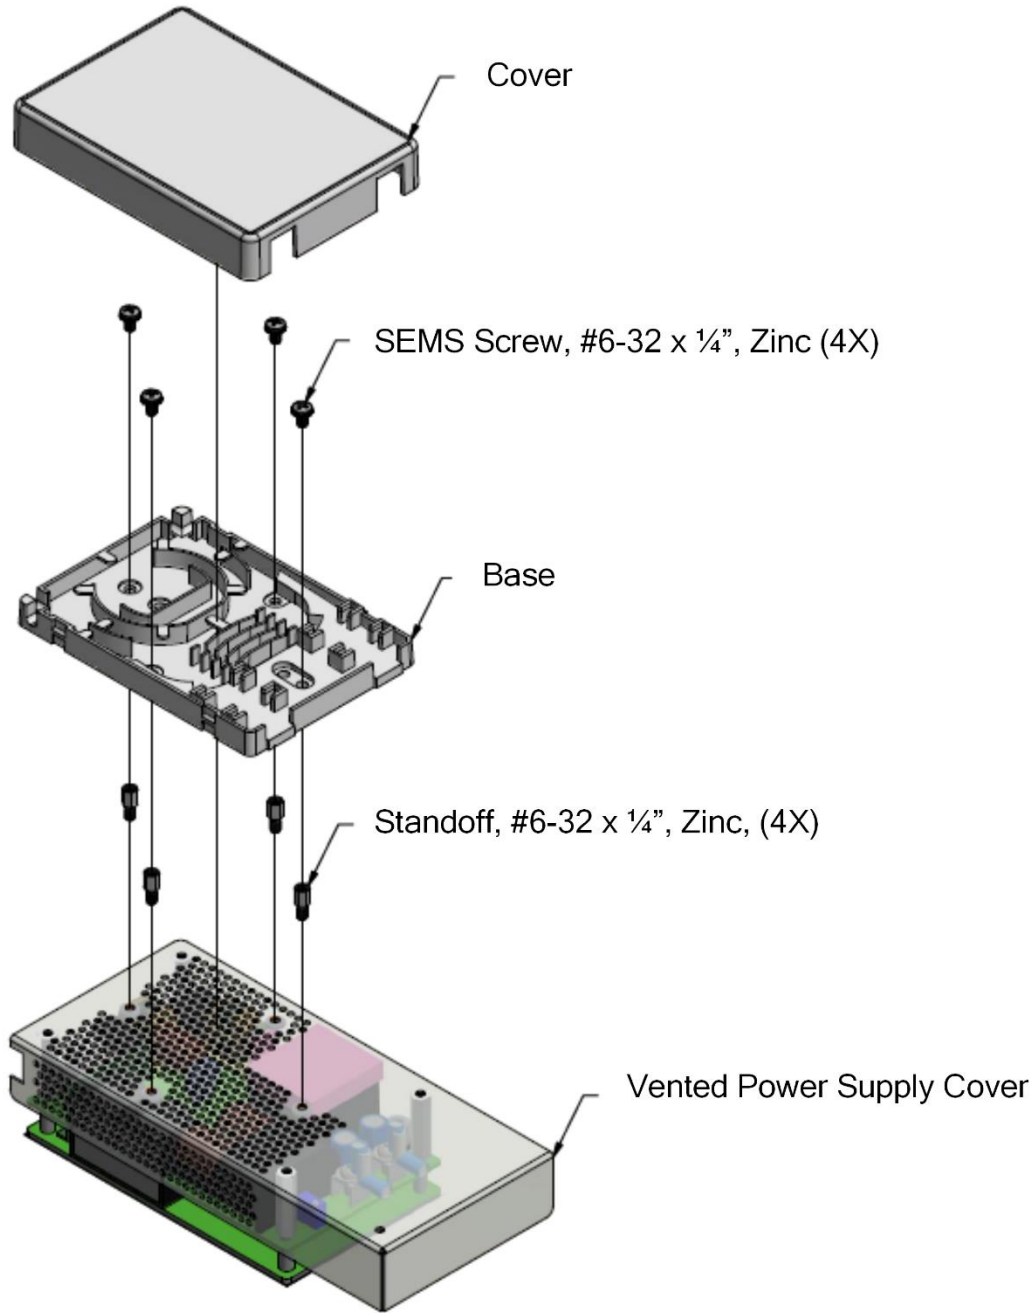

Fig. 2: FMK Assembly
6. Attach Fiber Tray to power supply cover using the four SEMS Screws and Standoffs. See Figure 2 below.